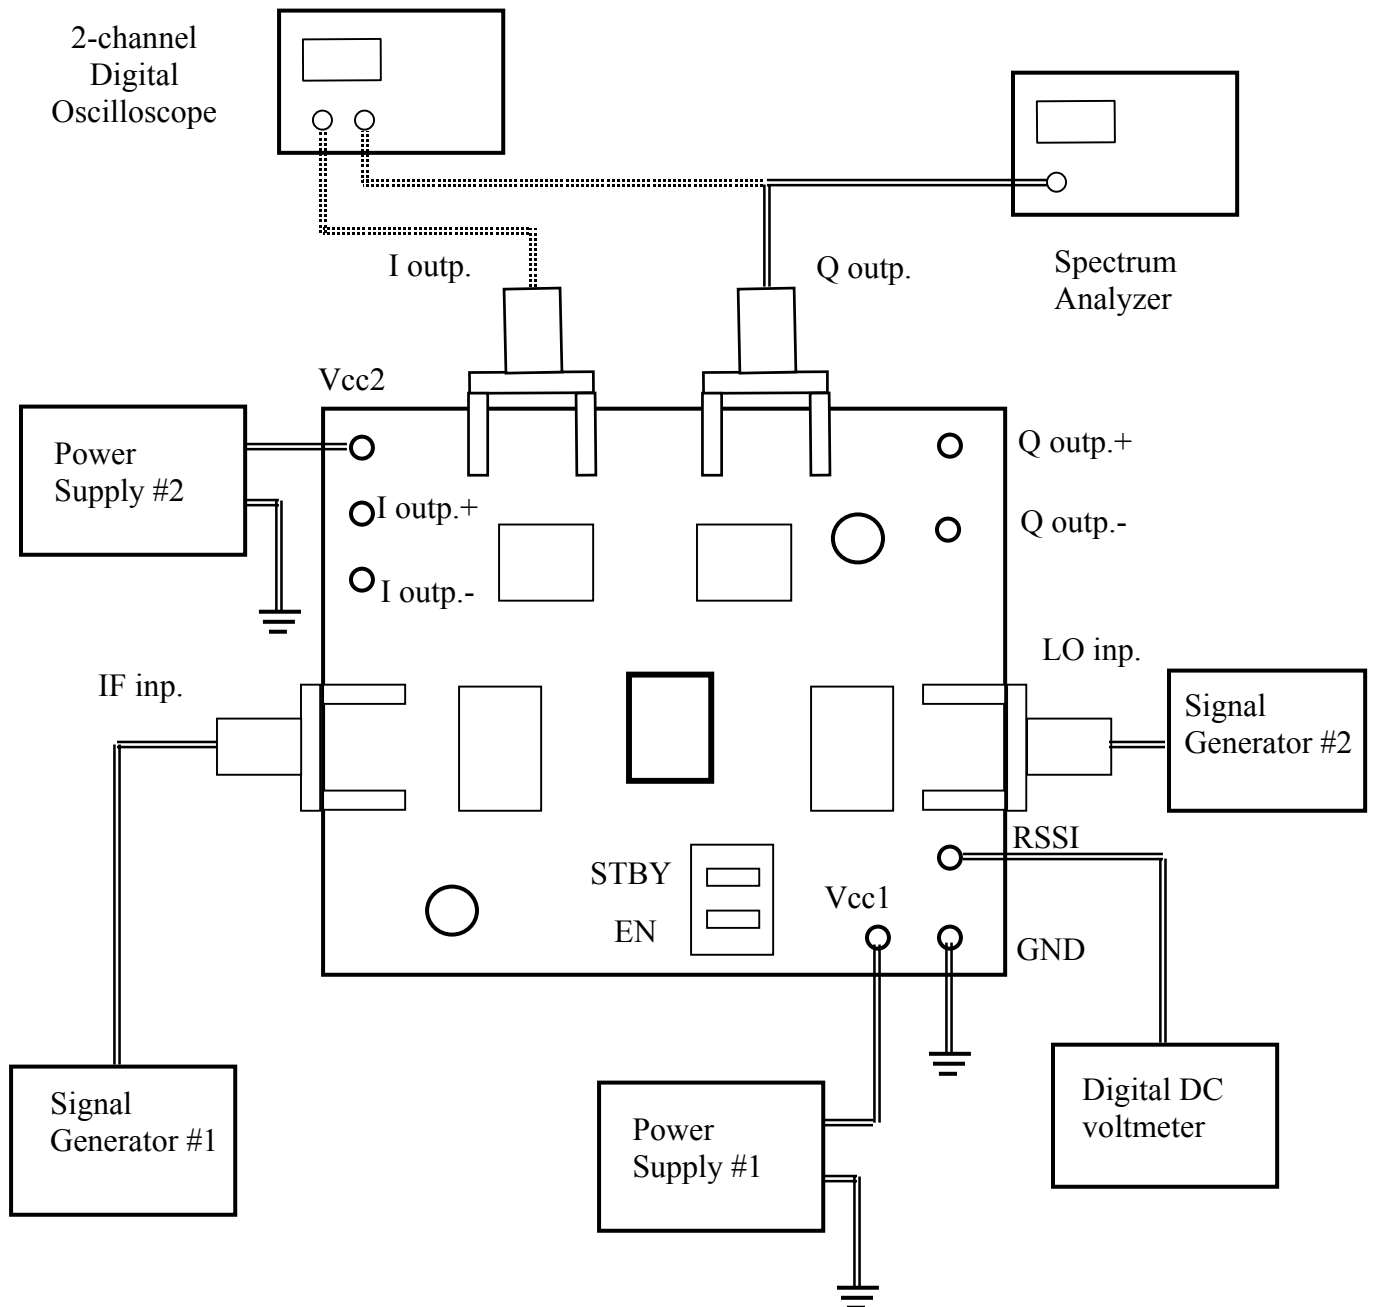

Figure 4. Test and measurement set-up
1. Connect test equipment and power supplies to the demo board as shown in Figure 4. To turn ON the LT5502 IC set two dip switches:
4. Set signal generator #2 for 570 MHz, CW mode, with output power –10 dBm. NOTE: 280 MHz input and 570 MHz LO frequencies will result in 5.0 MHz Baseband (BB) output signal.